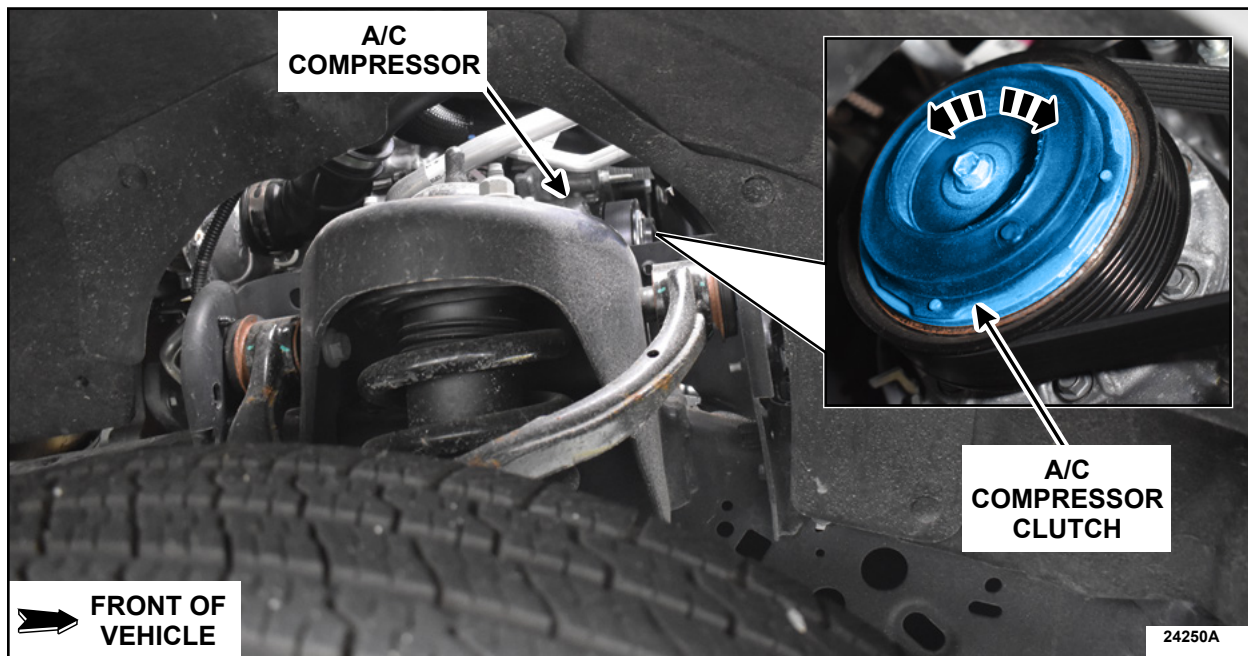

FIGURE 1
2. With the engine off, through the Right Hand (RH) wheel well, rotate the A/C compressor clutch by hand at least one revolution each direction. See Figure 1 and video link below.